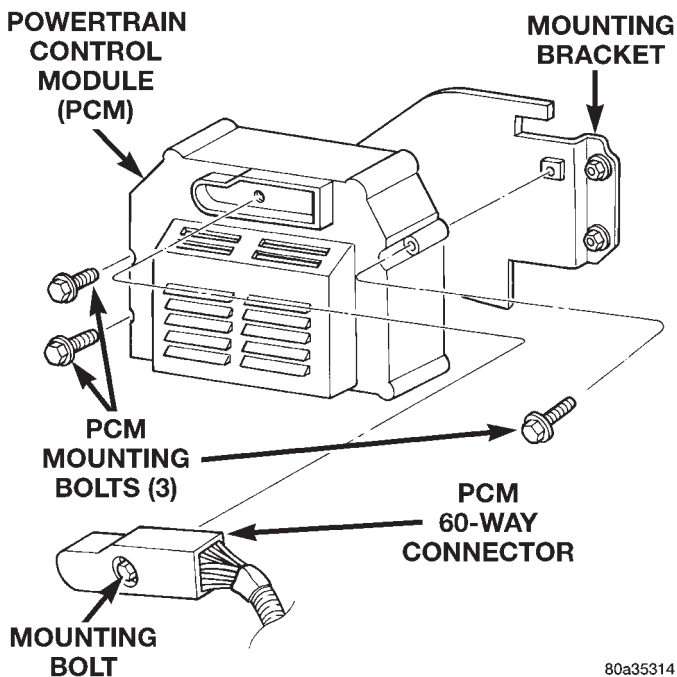

Fig. 12 PCM Location—Typical
- (1) Be sure that the battery connections are tight and not corroded.
- (2) Be sure that the 60 way connector is fully engaged with the PCM (Fig. 12).